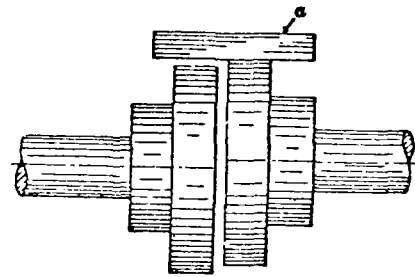

Fig. 1—Method of Checking Coupling Alignment.
**Alignment**—The procedure followed when checking driver and driver shaft alignment is as follows: Place a straight edge across the top and side of the coupling, and at the same time check the faces of the coupling halves for parallelism by means of a tapered thickness gauge or feeler gauges, as shown in Fig. 1 and 2.